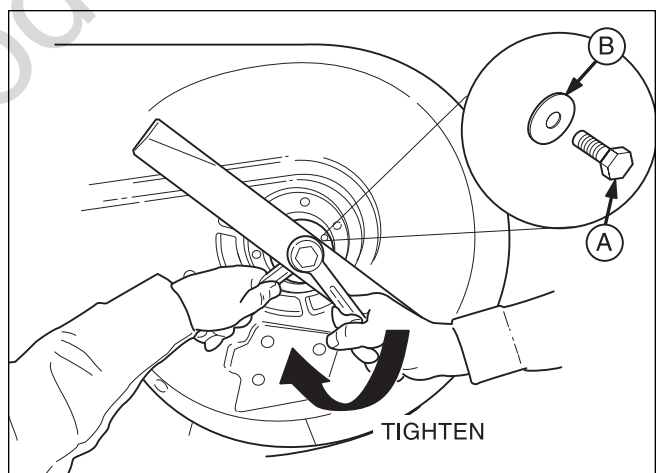

Figure 24. Installing The Blade
5. Reinstall each blade with the tabs pointing up toward deck as shown in Figure 24. Secure with a bolt and flat washer and torque bolts to 70 ft.lbs. (94 Nm).